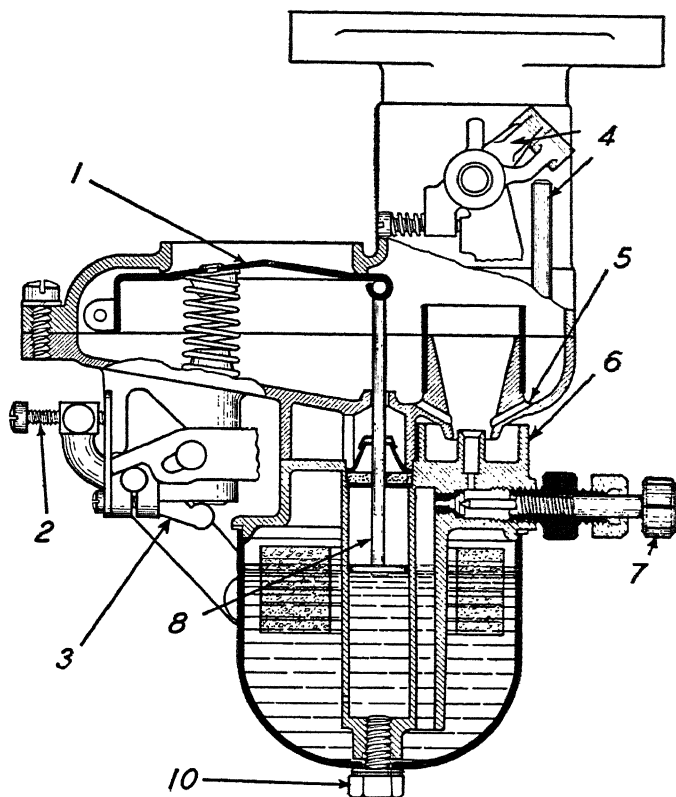

Fig. 96. Service Drawing of Johnson Model "H" Carburetor
**Servicing Johnson Model "H" Carburetor.** The auxiliary air valve 1, Fig. 96, is controlled entirely by the specially calibrated steel spring shown under it. This spring is not subject to change and if it should become worn or damaged, it is necessary that it be replaced with a new one, for the particular model being serviced. It will be noticed that the outer end of the air valve 1 is hinged, while the inner end is attached to a dasher or stabilizer rod 8. This rod has the dasher on its lower end. When servicing this carburetor, be very careful not to damage the rod 8 in any way. If it is not entirely free in action, inspection should be made to find the cause of the trouble. If it is binding at points where it passes through the carburetor body, the air valve action will be interfered with and this will put the entire carburetor out of adjustment.
*Economizer.* The economizer, shown at 4 in Fig. 96, determines
Fig. 96. It will be noted that the venturi tube stands within the carburetor body in such position that a small well is formed around it. Any fuel which strikes the throttle or passes into the mixing chamber and is not fully vaporized so that it finally drops back into the carburetor finds its way into this well and through these holes into the primary air stream where it is picked up and reatomized
*High-Speed Adjustment.* The high-speed adjustment nozzle, shown at 7 in Fig. 96, is used to regulate the amount of gasoline throughout the entire driving range above the 10-mile per hour, which is controlled by the idle-adjusting screw. In order to secure an adjustment of this screw, it should be turned "in" to make the adjustment lean and "out" to enrich it. By studying Fig. 96 it will be seen that when the screw 7 is turned in, it closes off or calibrates the opening more closely. As it is turned out, more gas is permitted to flow. The carburetor is so designed that an extreme amount of gasoline cannot be drawn through the calibrated opening even though the needle be opened an unwarranted amount. In the case of very high test fuel, the needle should be readjusted in order to secure economy. The normal setting for the high-speed adjustment is approximately twelve notches out or open.